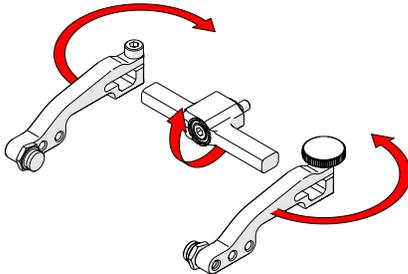

Fig. 166 - Flip yoke and reverse arms
3. Flip the yoke 180° and reverse the probe holder arms (Fig. 166).